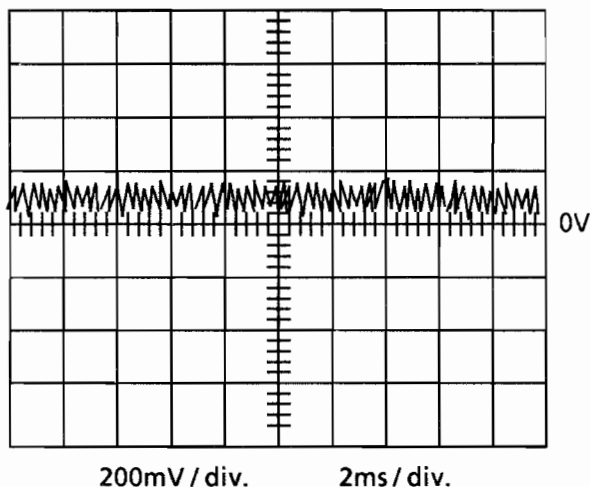

Figure 1
1. Connect an oscilloscope to TP 5(FE) and TP 4(GND).
3. Adjust R703 (F.GAIN ADJ.) so that the correct waveform as shown in figure 1 is obtain.